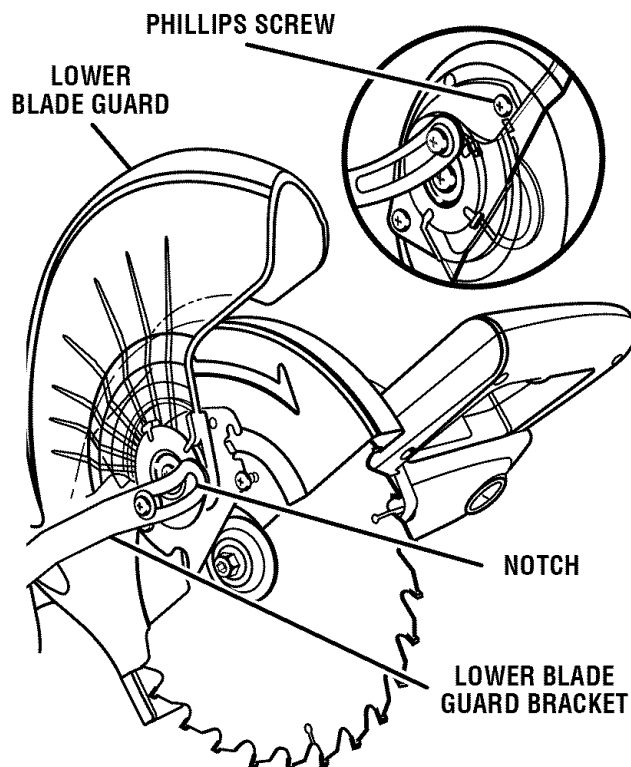

Fig. 12
See Figures 12, 13, and 14.
- Loosen the phillips screw on the blade bolt cover until blade bolt cover can be raised. See Figures 12 and 13.
- Gently raise the lower blade guard bracket, releasing lower blade guard from notch so that lower blade guard and blade bolt cover can be rotated up and back to expose the blade bolt. See Figures 12 and 13.